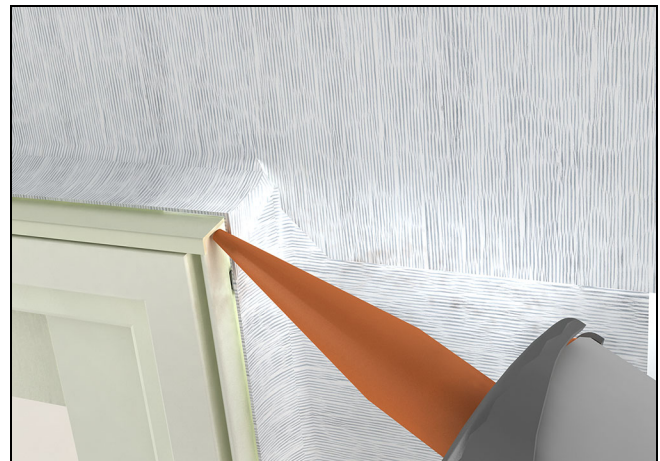

Figure 15
8. Seal the ends of the rigid head flash by injecting sealant at each end. See Figure 15.